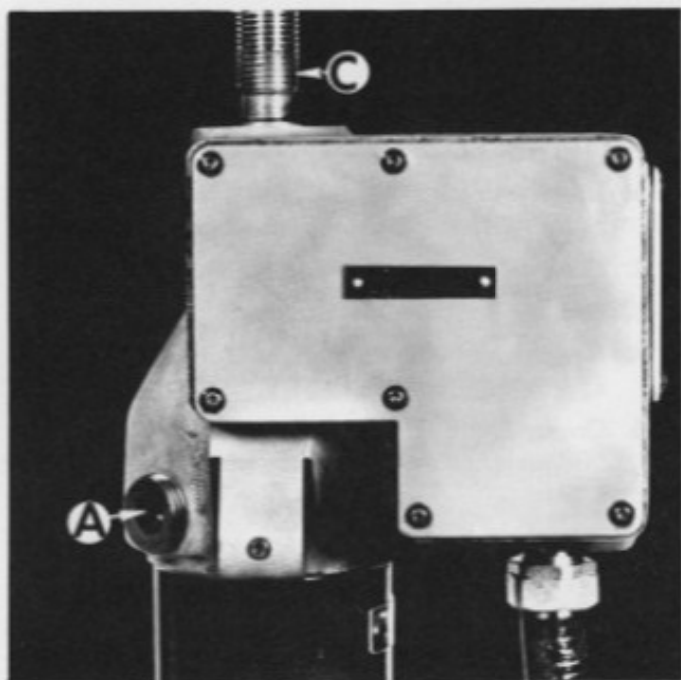

Figure 32 — Drive Brake Plug and Vertical Screw
2. Remove plug "A", Figure 32.
4. Hold adjusting collar with pin wrench in screw "B" and turn vertical screw "C", Figure 32, by hand until .010 to .015" clearance is achieved between brake and brake disc at point "D". Tighten screw "B".
The drive micro switch "A", Figure 32, is a safety feature to prevent drive from over-running top or bottom. When properly set, the micro switch will permit 1½ to 3 turns of vertical screw beyond extreme speeds before switch is engaged cutting power to variable speed motor.